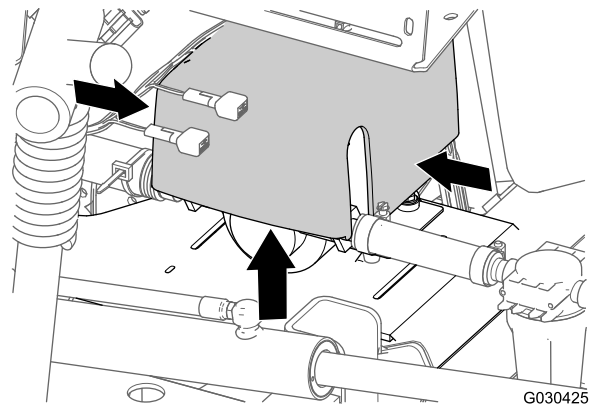

Figure 7
1. At the back of the machine, press together the sides of the rinse-pump cover and lift the cover up until the tabs of the cover clear the slots in the saddle plate, and remove the cover from the machine (Figure 7).